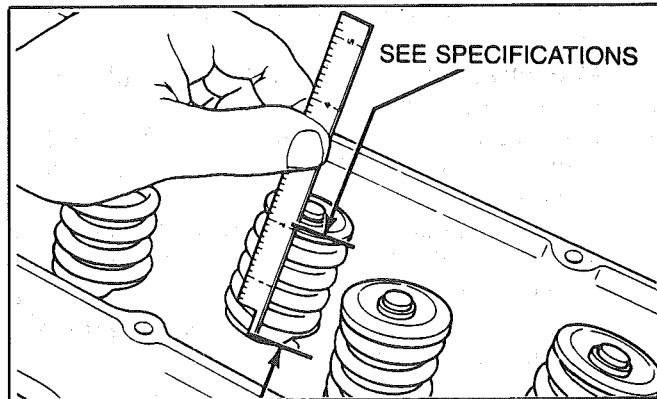

Fig. 6A3-21 Cutaway Scale
5. Check the installed height of the valve springs, using a narrow thin scale. A cutaway scale will help (fig. 6A3-21). Measure from the top of the shim or the spring seat to the top of the oil shedder. If this is found to exceed the specified height, install a valve spring seat shim approximately 1/16" (1.6mm) thick. At no time should the spring be shimmed to give an installed height under the minimum specified.